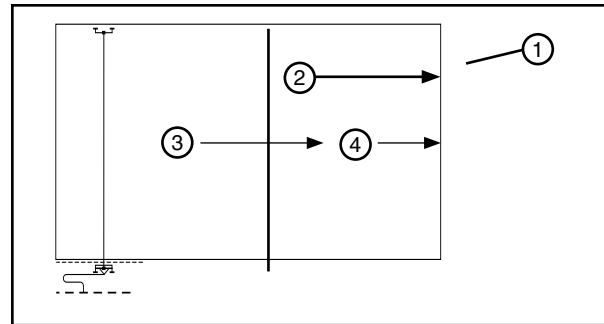

Figure 35-1 1. Field 2. Direction of Travel 3. Wet Deep 4. Wet Shallow
1. The percentage timer is set at the desired application rate, the system is started at one end of the field, and run wet (irrigating) to the middle of the field. See figure 35-1.
2. At the middle of the field the percentage timer is set to 100% and the system continues to run wet to the other end of the field. See figure 35-1.